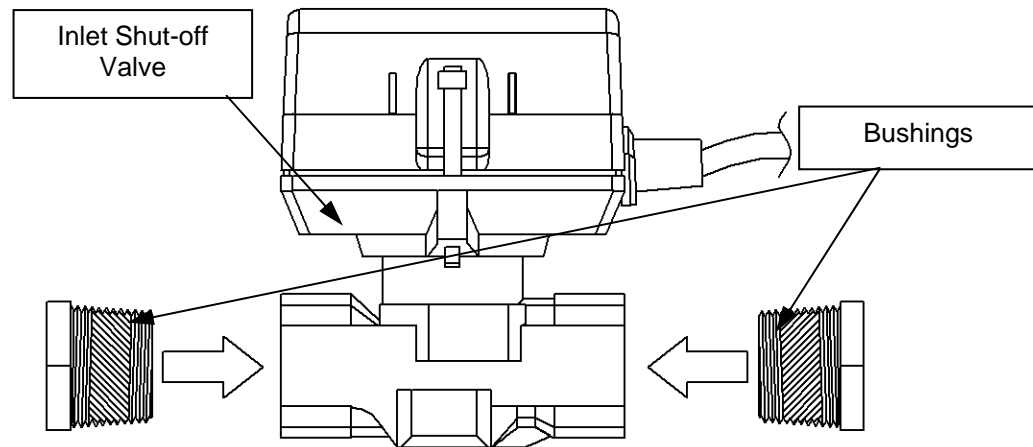

Figure 72
Step 5: Thread the bushings into each end of the Inlet Shut-off Valve, as shown in Figure 72.